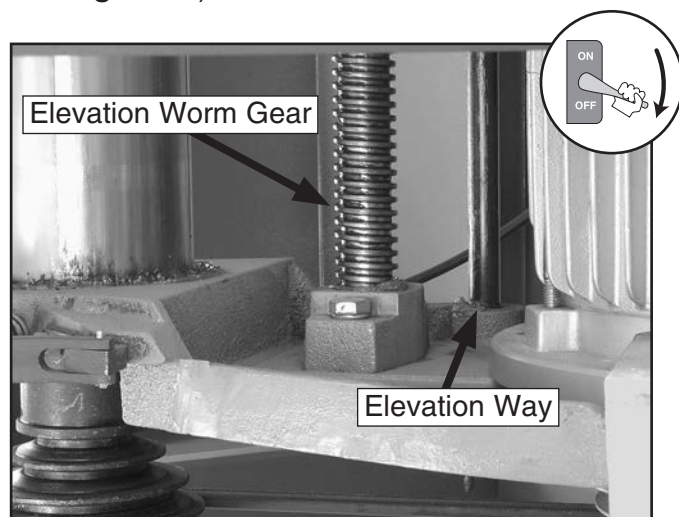

Figure 46. Spindle elevation worm gear and way (accessed through shaper front door).
3. Access the spindle elevation worm gear and way through the shaper front door (see **Figure 46**).